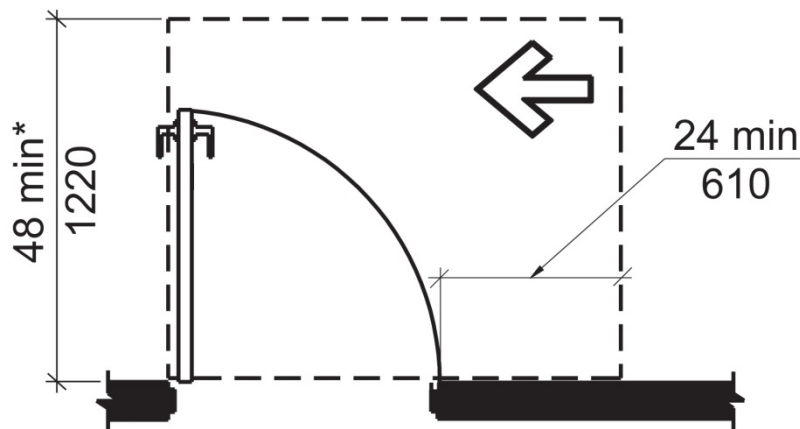

Figure 404.2.3.2(G)
Previously posted errata for Figure 404.2.3.2 (C) has been removed. The title to this figure is correct based on the correction to the footnotes of Table 404.2.3.2.
Section/Table/Figure Number: Figure 404.2.3.2 (G)